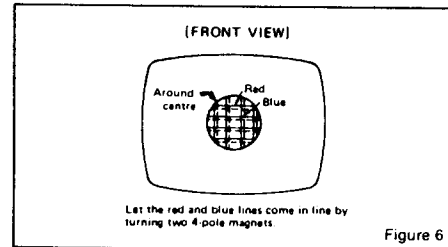

Figure 6
7.5 Rotate the 4-pole (middle) pair of magnets as a unit to minimize separation of the red and blue crosshatch lines around the center of the screen (Figure 6). Variation of the angle between the tabs adjusts convergence of red and blue. (Tilt yoke as required to converge red and blue at the edges as in 7.3 above.)